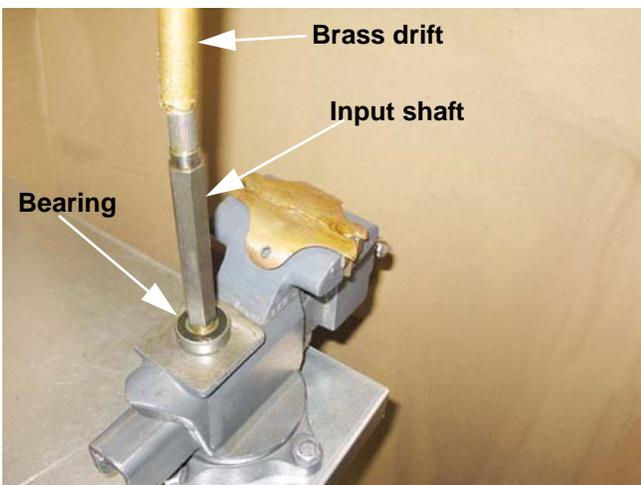

Figure 5.58
9. A new bearing can be driven onto the shaft. See Figure 5.58.